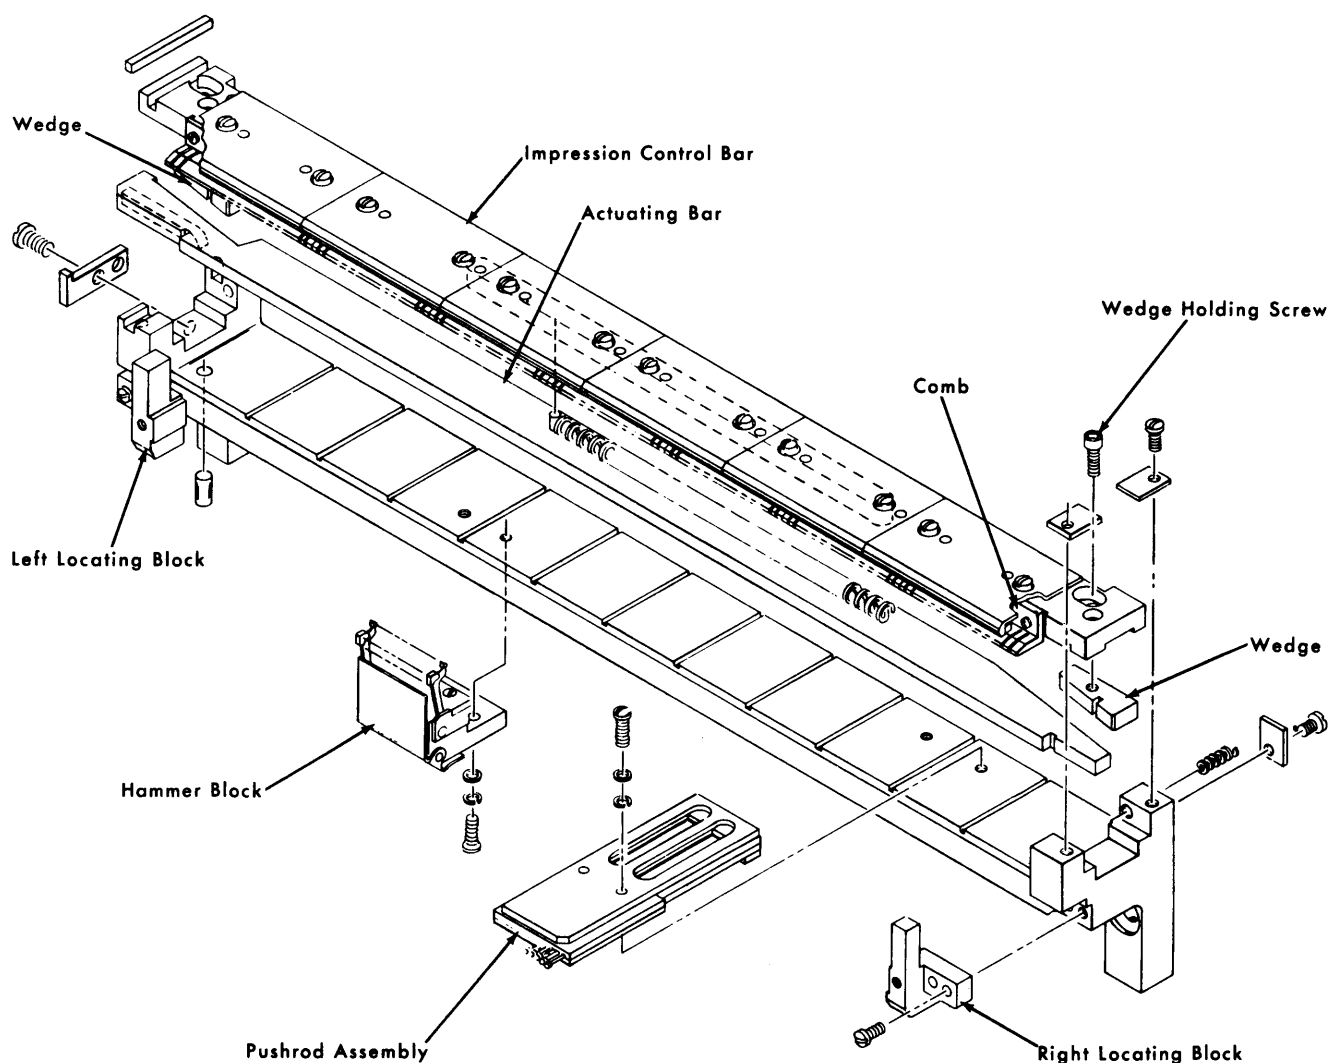
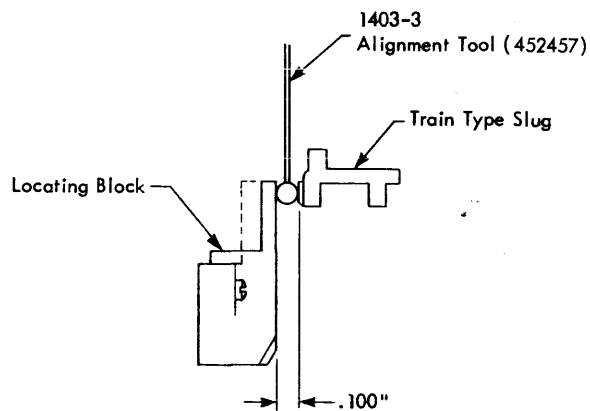

Figure 82. Hammer Mounting Bar Assembly
Figure 88. Train-to-Hammer Unit Positioning
3. Remove the two screws (Figure 82) from the mounting block for the hammer to be removed.
4. Move the left upper and lower tractors to a point opposite the left hammer unit locating block (see Figure 82).
3. Insert the .100" rod end of the tool (part 452457) at the left end of the cartridge between the hammer locating block (see Figure 82) and a type slug with wide characters (Figure 88).